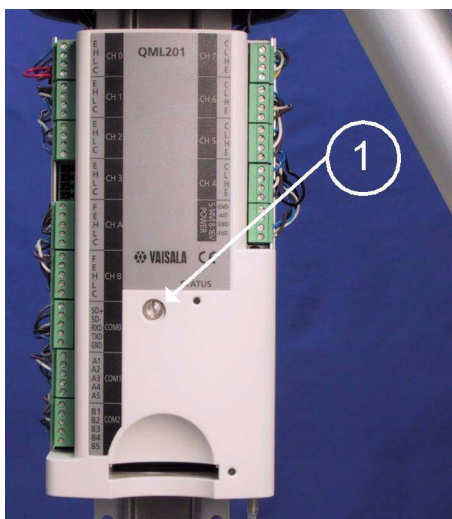

Figure 39 Logger Cover Screw
2. Remove the logger cover screw (number 1 in Figure 39 on page 59) to open the logger housing.